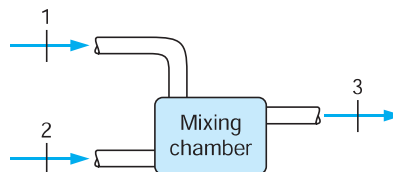

FIGURE P6.95
- 6.95** An open feedwater heater in a power plant heats 4 kg/s water at 45°C, 100 kPa by mixing it with steam from the turbine at 100 kPa, 250°C, as in Fig. P6.95. Assume the exit flow is saturated liquid at the given pressure and find the mass flow rate from the turbine.